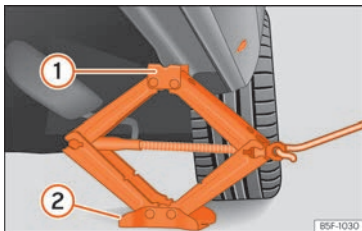

Fig. 46 Cross member: positioning the jack on the vehicle.
- Turn the jack* crank handle, located below the strut support point, to raise it until the tab **1** » **Fig. 46** is below the housing provided.